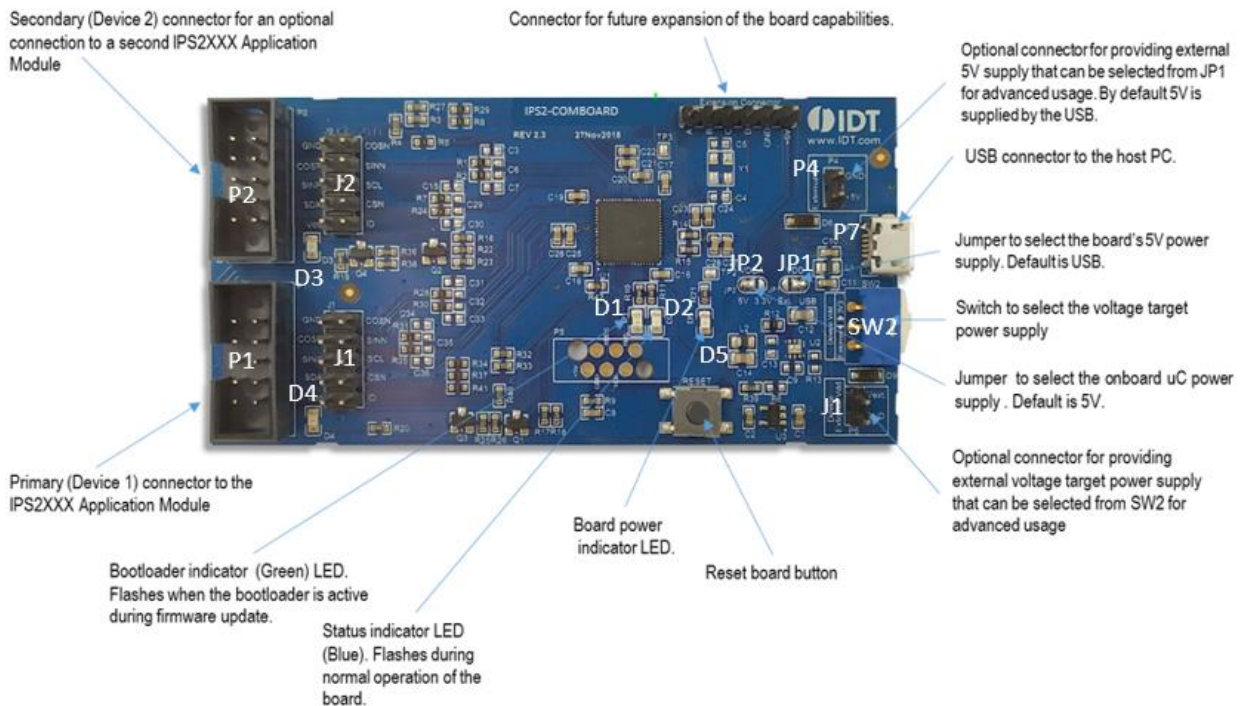
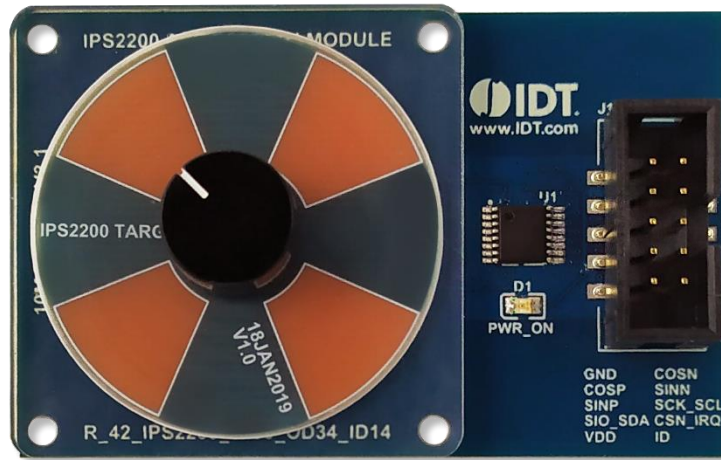

Figure 3. IPS2-COMBOARD – Overview
Figure 4. IPS2200MROT4x90001 Application Module – Overview
5. The indicator D5 on the IPS2-COMBOARD will light (see Figure 3) if conditions are normal. This indicates that the board is ready to communicate with the IPS2200 EVKIT Application Software. The D1 LED on the IPS2200 Application Module (see Figure 4) also lights when the board is powered on.